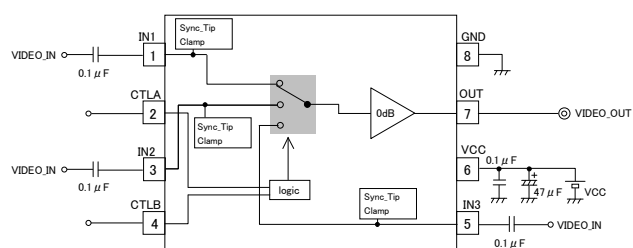
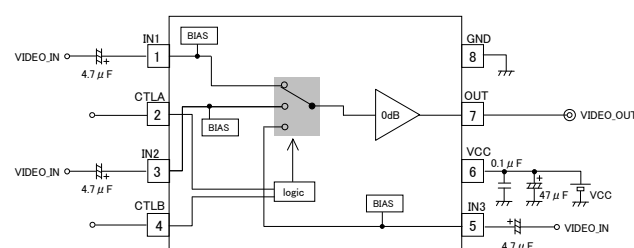

Fig. 9 BH76332FV
Fig. 10 BH76333FV
When evaluating the sag characteristics and determining the capacity of the capacitor during video signal input, a horizontal stripe signal called "H bar" (shown in Fig. 10) is suitable, and this type of signal is used instead of a color bar signal to evaluate characteristics and determine capacity.
11. Frequency response in models that do not include a 75Ω driver (BH76332FVM and BH76333FVM) was measured as 100 kHz/30 MHz: 0 dB (Typ.) in the application circuit examples (shown in Fig. 9 and Fig. 10), and when resistance of about 1 or 2 k Ω is applied from the IC's output pin to GND, this frequency response can be improved (the lower limit of the applied resistance should be 1 k Ω). In such cases, gain is reduced, since the output voltage is divided by the added resistance and the output resistance of the IC.